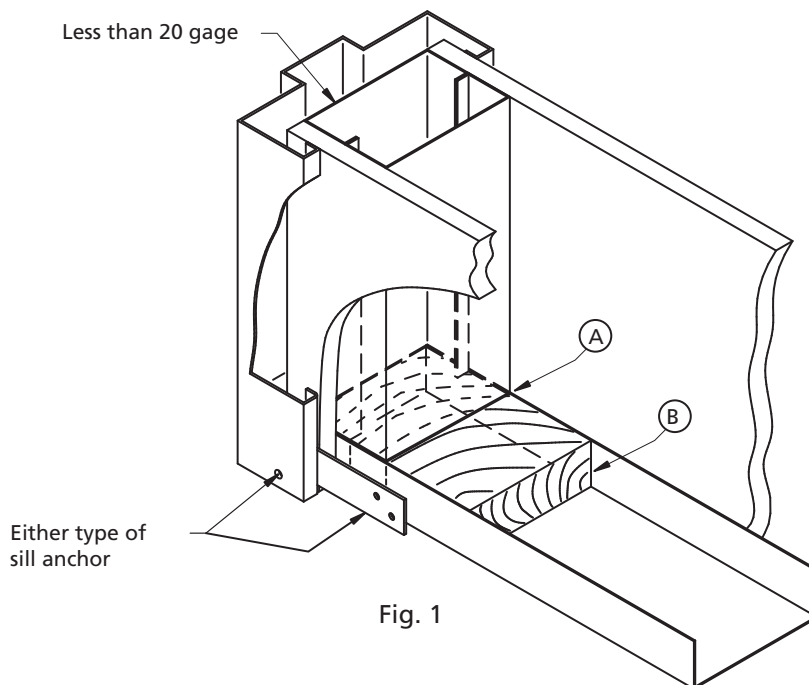

Fig. 1
(A) and (B) proceed as in Fig. 1 above.